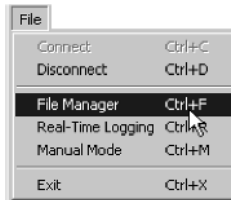

Figure 4-4. File->File Manager
- Click **File->File Manager** (Figure 4-4).